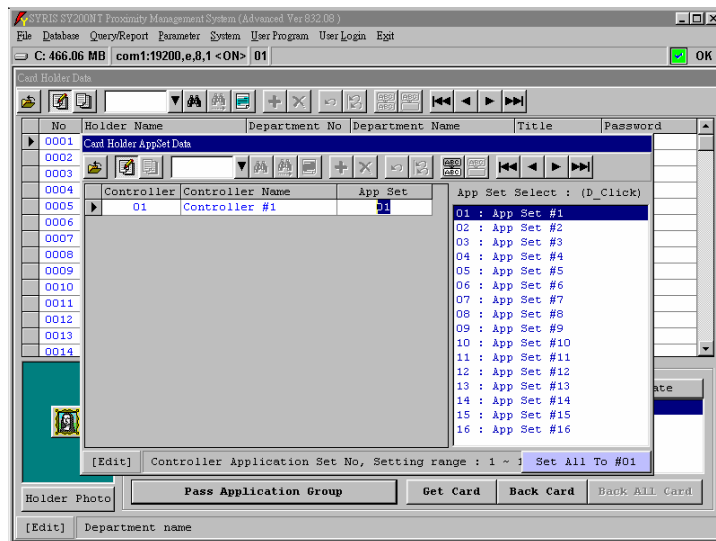

Fig.7-4 Pass Application Group Setting
7. Click "Pass Application Group", wait screen display, as Fig.7-4.